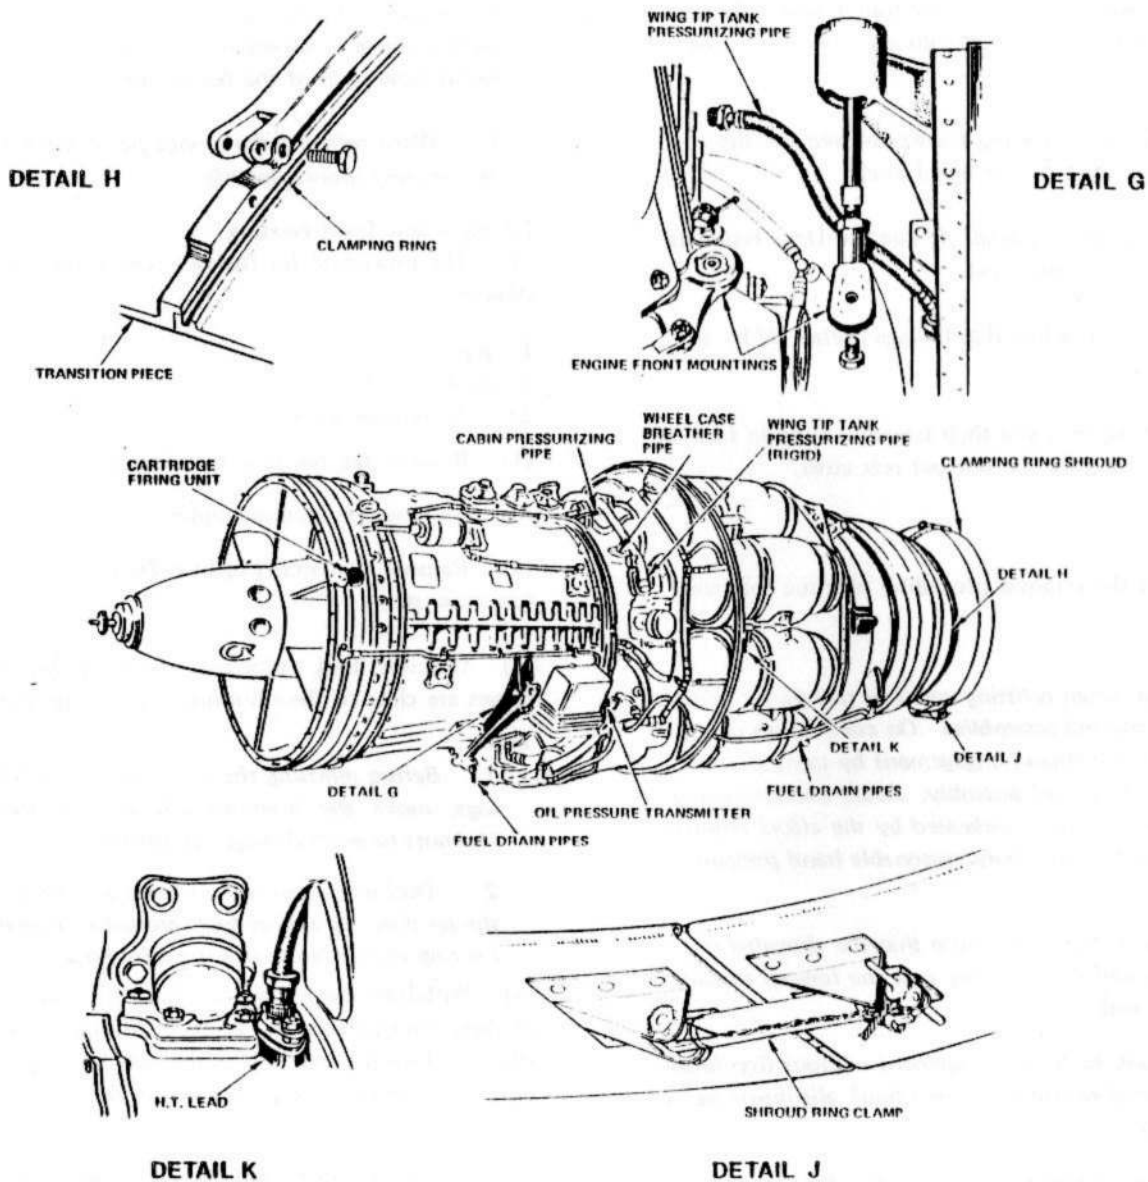

FIG. 6. ENGINE CHANGE UNIT REMOVAL (2)
- (8) Disconnect the wing tip tank pressurizing pipe (*fig.6, detail G*).
- (11) Refer to the LETHAL WARNINGS marker card. Disconnect the H.T. leads from the igniter plugs (*fig.6, detail K*).
- (c) Oil pressure transmitter (fig.6).
- (e) Cartridge firing unit (fig.6).
(13) Disconnect the thermocouple connections, remove the clamping ring shroud (fig.6), and the clamping ring (fig.6, detail H) from the transition piece. Move the jet pipe and transition piece as far aft as possible.
(14) Remove the clamping caps from the rear mounting spherical bearing.
(15) Fit an engine sling (A.P.102C-1522-1) and take the weight of the engine on the lifting gear.
(17) Swing the engine forward and upward, taking care that the inner cone does not foul the transition piece.
(18) Disconnect the cabin pressurizing pipe from the engine.
(19) Disconnect and remove the wheel case breather pipe (fig.6).
(20) Disconnect the rigid portion of the wing tip tank pressurizing pipe at the engine (fig.6).
(21) Remove the fuel drain pipes (fig.6).
1. When installing a replacement engine change unit, the pipes and components, removed from the engine to be replaced, (para.29 sub-para.(18) to (21)) should be retained for fitting to the replacement unit.
3. After refitting the transition piece clamping ring shroud, wirelock the shroud spring clamp (fig 6, detail J).